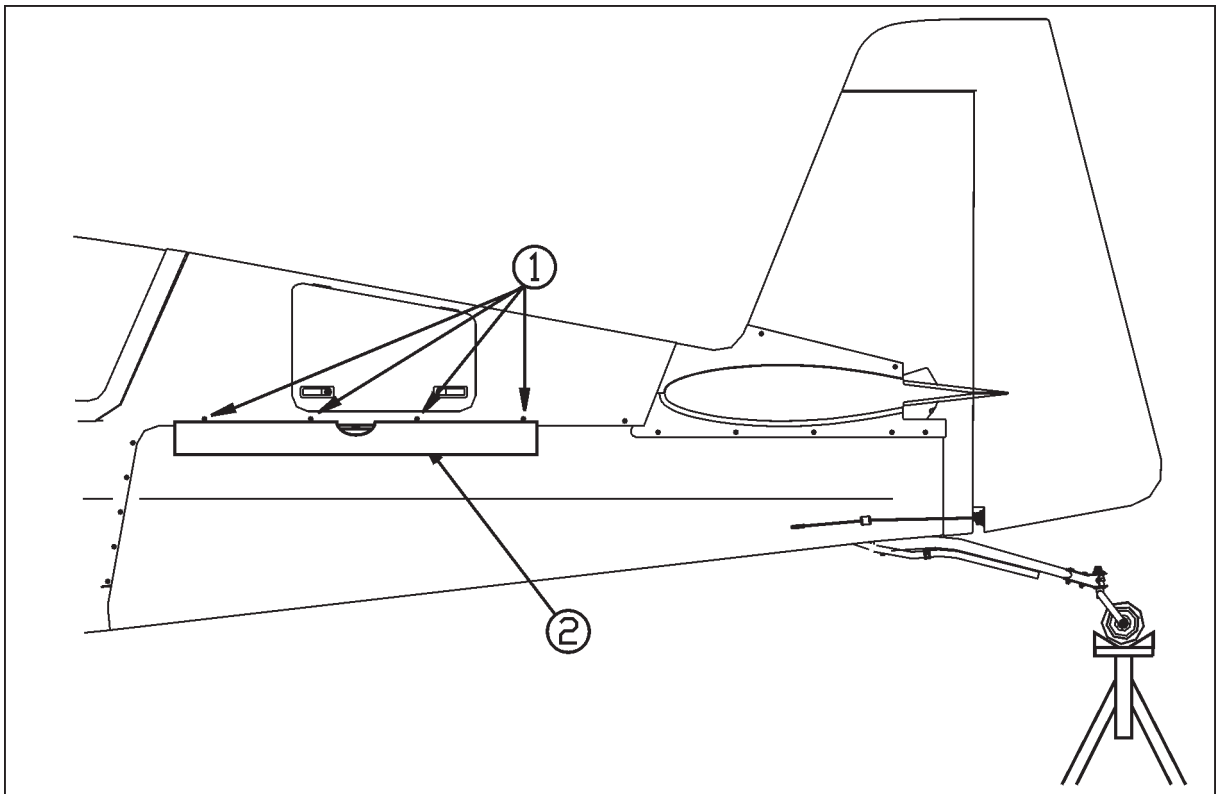

Figure 1
- 3 Level the aircraft to its horizontal reference line using a spirit level (2, figure 1), which is to put under the bolts of the rear main fuselage cover (1). Adjust pitch by changing the jack height.